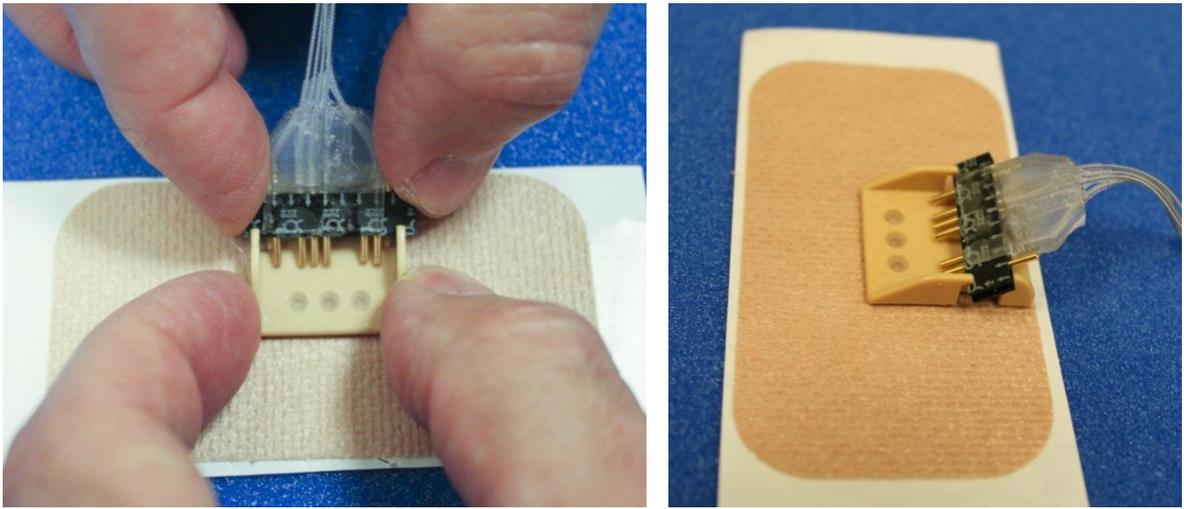

Figure 18
5. Once dry, place the electrode connector into a new connector holder as shown in Figure 18. Snap the electrode connector down into the